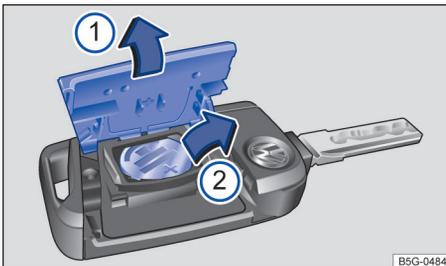

Fig. 49 Remote control vehicle key: Opening the battery compartment cover and removing the old battery.
The battery is in the back of the remote control vehicle key under a cover → fig. 49 ①.
Key to fig. 49:
- Remove the cover on the back of the remote control vehicle key → fig. 49 ① in the direction of the arrow using a suitable object such as a coin → ①. This action may require some force.
- Use a thin object to pry the battery out of the battery compartment → fig. 49 ②.
- Position the new battery with the + side facing up and press the battery carefully into the battery compartment (opposite direction of the arrow) → ①.